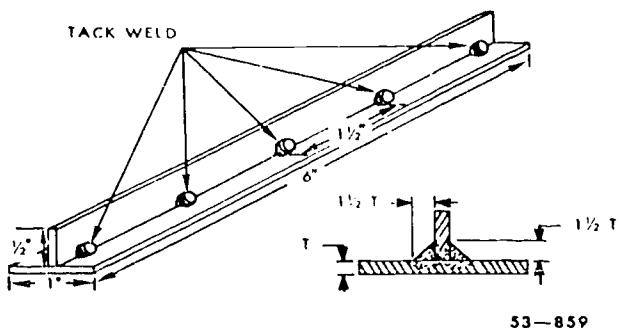

Figure 2-31. Welding Tee joints.
**Setup and tack welding.** To space, position the vertical sheet approximately  $1/32$  inch above the horizontal sheet to permit easier fusion into the root of the joint without excessive heating. Figure 2-31 illustrates the proper spacing of tack welds and gives other dimensions. The tack welds must be rigid and small enough to permit the metal to fuse easily. Do not space the tack welds more than  $1\frac{1}{2}$  inches apart. If the joint is to be welded on both sides of the vertical sheet, make the tack welds alternately on both sides of the sheet. Tack welding in this way helps to maintain the alignment of the vertical sheet.